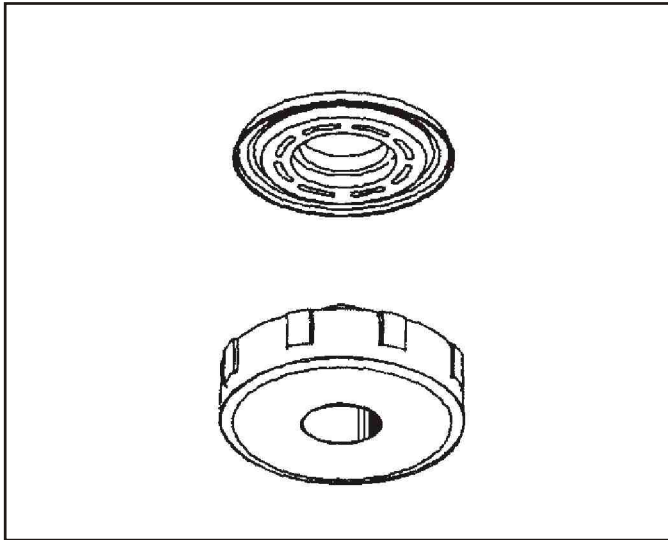

Figure 97
- Carefully apply approximately 5 psi of air pressure to the clutch housing feed orifice and blow the piston out of its bore or gently tap the drum on the bench until the piston comes out of its bore (See Figure 97).